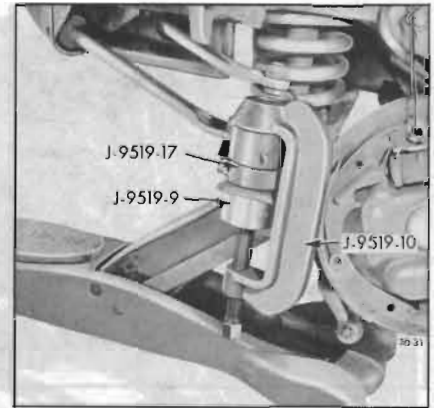

Figure 30-34—Lower Ball Joint Installer in Place
1. Position ball joint in lower control arm and install Tool J-9519 as shown in Figure 30-34.